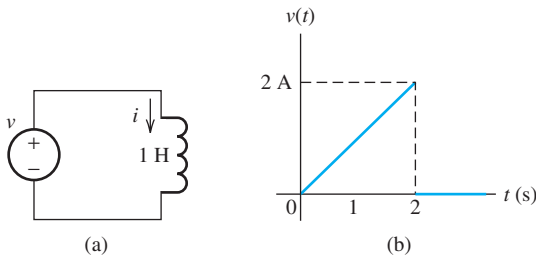

FIGURE P4.38 (a) Inductor circuit; (b) waveform of $v(t)$.
4.38 (H) For the circuit shown in Figure P4.38(a), $v(t)$ is given in Figure P4.38(b). Assume the initial value of i , $i(0) = 0$.